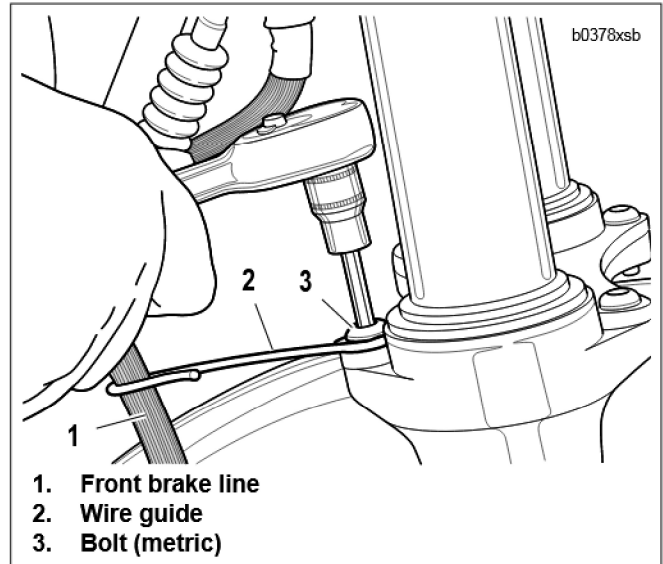

Figure 1. Removing Wire Guide
1. See Figure 1. If vehicle has a wire guide (2) installed around the front brake line (1), remove bolt (3) (metric).
3. Apply two drops of LOCTITE THREADLOCKER 242 (blue) to threads of bolt (3) (metric). Install bolt and tighten to 10-12 ft-lbs (13.6-16.3 Nm).